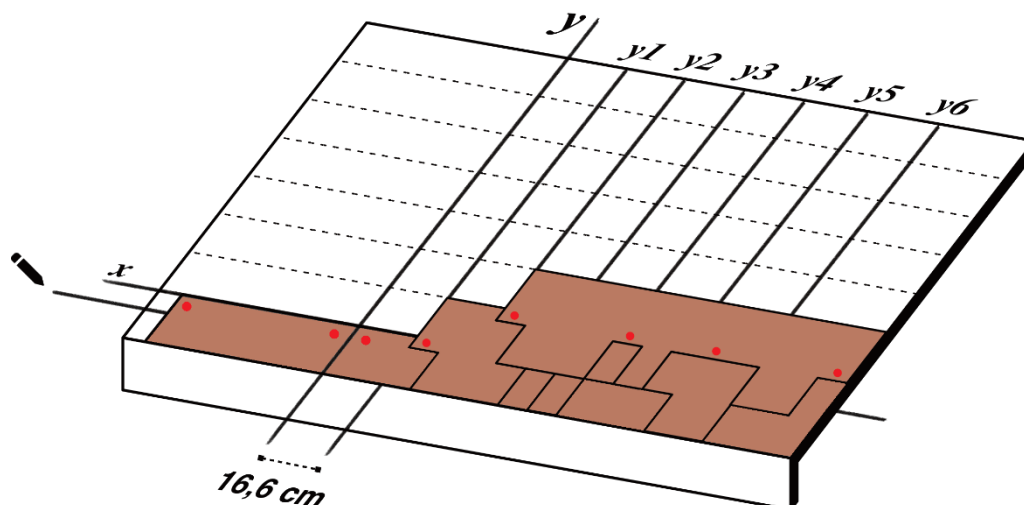
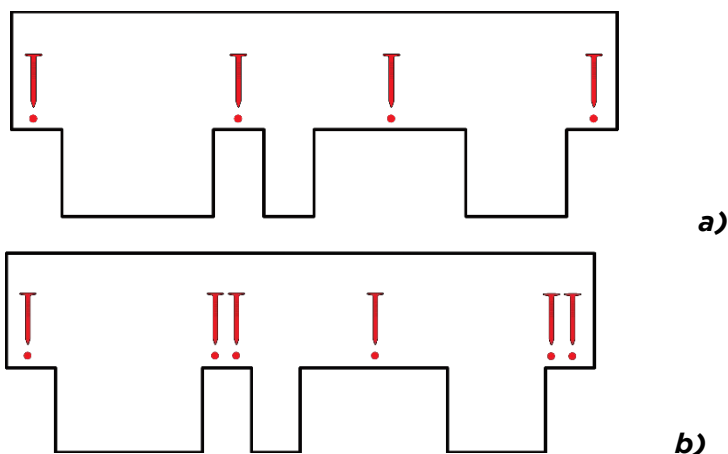

Fig. 7 - Shingles installation
Fig. 8 - Shingle nailing a) slopes <60°; b) slopes >60°
- Apply over the membrane/underlayer a bead of bituminous adhesive Bitustick close to the gutter line - Fig. 7;
- Proceed with the installation of the first row of shingles: align the lateral edge of the first shingle on the vertical **y₁** and the upper edge on the horizontal 14,3 cm from **x** - Fig. 7. Nail the shingle to the substrate by placing 4 nails per shingle, as per Fig. 8 a). In the event of pitched slopes between 60° and 85°, place 2 additional nails close to the second and fourth nail, for a total of 6 nails per shingle, as per Fig. 8 b). Proceed by placing all the shingles in the first row.
- Move forward with the installation of the second row of shingles starting from the vertical line **y₂** and aligning the upper edge of the shingle to the horizontal line 28,6 cm from **x**. - Fig. 7